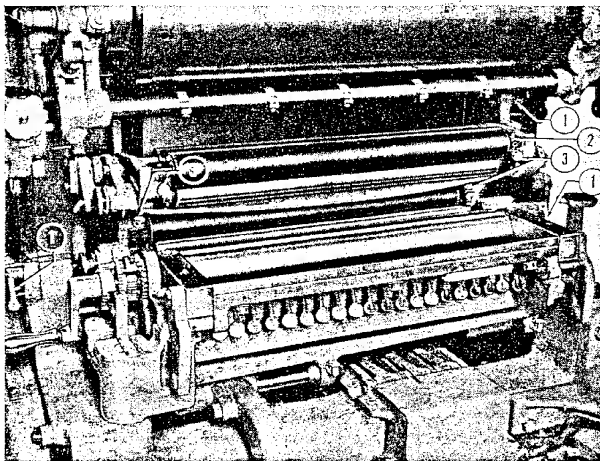

Figure 31—Form and Distributor Rollers
(3) HOW TO OPEN OR REMOVE FORM AND DISTRIBUTOR' ROLLERS.—The composition form and distributing rollers are mounted in roller boxes which attach to the form and distributing roller frames. (See figure 31.) The roller frames are so designed that the composition rollers may be lowered out of operating position. Roller lock levers, (1) figure 31, one on each end of roller frames, lock the frames in operating position.
The rollers are locked in their boxes by means of roller box keys, (2) figure 31, in the right side roller box. A roller may be removed from its box by sliding the key from the box, permitting the removal of the roller. In addition, the roller frames can be easily removed from the press by swinging the roller lock levers (1) figure 31, to their up position, permitting the roller frames to be lifted from the studs on which they mount.
(4) HOW TO ADJUST FORM AND DISTRIBUTOR ROLLERS.—Roller adjusting screws, (3) figure 31, provide for adjusting the form and distributor composition rollers for correct contact with ink table and their vibrator rollers. When the rollers are adjusted for correct contact with ink table, they will also be in correct contact with their vibrator rollers. To check for correct composition roller setting, proceed as follows:
(a) With form and distributor rollers installed on their frames, lock frames in operating position, being sure that lock levers, (1) figure 31, are in down position. (Figure 31 shows form rollers in open position.) If new composition rollers are installed, reset to proper contact by means of adjusting screws.
sition, and then examine roller impression on ink table. The impression should be approximately $3/16''$ wide the full length of roller. If impression is not correct, turn roller adjusting screw, (3) figure 31, as required.